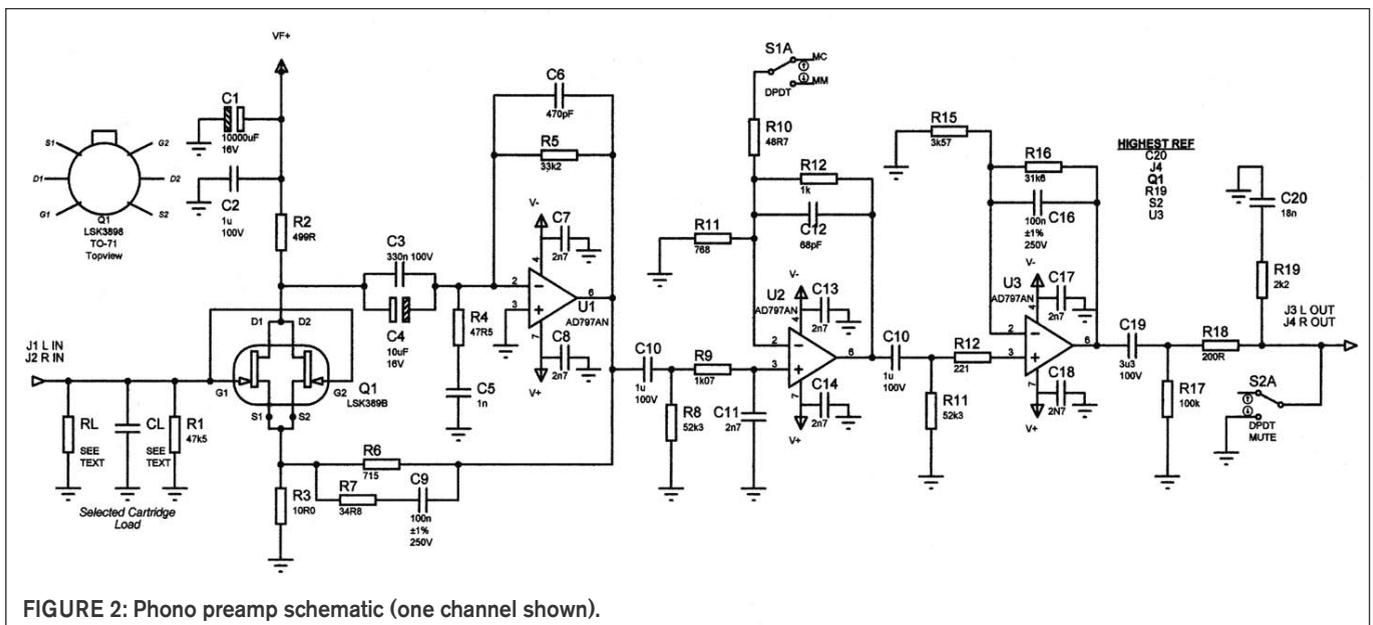
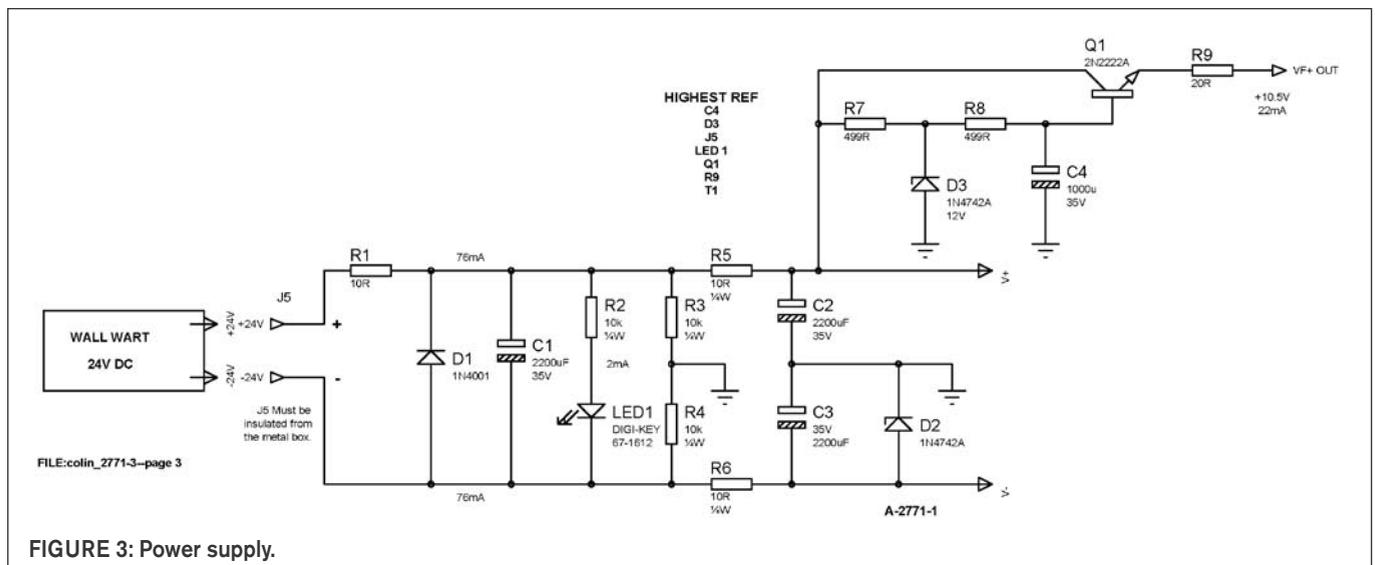

FIGURE 2: Phono preamp schematic (one channel shown).
FIGURE 3: Power supply.
For higher output cartridges, or for any reason, you can increase the 1kHz maximum input to 92mV RMS (130mV peak) by reducing the second stage (U2) gain from 7.2dB to 0dB. To do this, simply delete R11 in **Fig. 2**. (This will decrease the MC gain by only 0.5dB.) The maximum input at 20kHz (MM) will then be 510mV RMS (721mV peak). Doing this results in an overall preamp MM gain at 1kHz of 36.7dB. Output with 5mV RMS input is then 342mV RMS.
The op amps, with their 130dB power supply rejection ratio (PSRR), couldn’t care less what kind of DC you feed them, provided that their HF bypass caps (C7, 8, 13, 14, 17, 18 in **Fig. 2**) are closely grounded. So the simple RC ripple filtering of (**Fig. 3**) R1, C1, R3, R4, C2, C3 provides low enough 120Hz ripple (0.2mV RMS) such that the op amps attenuate it to 63 *pico* volts. They’re fed the V⁺ and V⁻ voltages.
The circuitry with Q1 and D3 provides excellent rejection of line fluctuations and ripple. However, I observed some LF noise from the D3 zener adding to the preamp’s noise floor, from about 5–40Hz. This was fixed by the filtering of R7 and the 10,000µF cap (C1 in **Fig. 2**), forming a 0.8Hz low-pass rolloff.
Note the role of D2 (**Fig. 3**), which clamps the V⁻ to -12V, leaving +12V for V⁺ and the Q1 circuit. I couldn’t have two zeners across the full DC input (about 26V, more on this later)—as this input
Here’s how D2 functions: As shown in **Fig. 3**, the total positive supply current is 76mA, which is drawn from the TI wall wart. Being a single (not bipolar) supply, TI must then draw this same 76mA from its negative terminal. But the negative supply output (V⁻) and the LED’s 2mA provide only 52mA. The difference, 24mA (the Q1 circuit’s current), is pulled through D2, which is thus happily kept on. Looks strange, but works well.
R1 (**Fig. 3**) will act as a fuse if there’s a short or reverse voltage applied.
If desired, you can use a regulated ±15V DC supply, which you must isolate from the AC line ground, but connect its common ±15V point to the preamp chassis ground. Referring to **Fig. 3**:
With this $\pm 15V$ supply and the “stock” U2 gain of **Fig. 2**, the preamp’s maximum input and output levels will increase by about 3dB.
with an MM cartridge, producing a $+20dB$ blast! The switches provide excellent chassis grounding of the board. You should connect the ground end of R3 (**Fig. 2**) to a ground lug on the input jack.
(949) 951-8808, and change R2 (**Fig. 3**) to 3k3.
I recommend reading Raymond A. Futrell’s “The LP Terminator,”² on how to obtain the flattest frequency response given the high inductance of MM cartridges. The LP797 preamp input capacitance (without CL in **Fig. 2**) is only 21pF, because the Q1 drains see the “virtual ground” of U1 (no Miller effect), and also because of the “bootstrapping” of NFB to the Q1 sources. Mr. Futrell shows how the right phono cables can provide optimum capacitance.